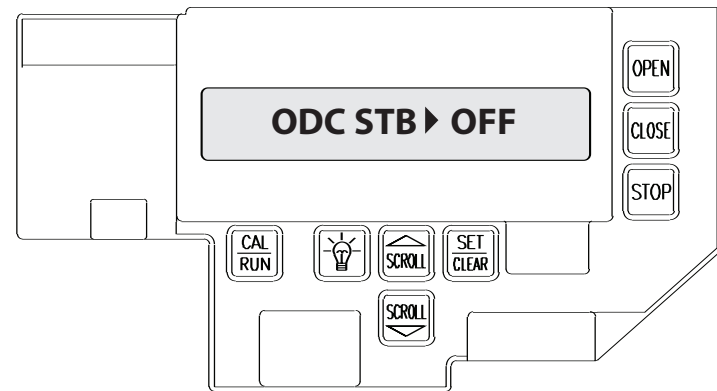

Figure 9
- A)** To turn series II photocells off, repeat process until display reads "ODC STB > OFF." **Fig 9.**